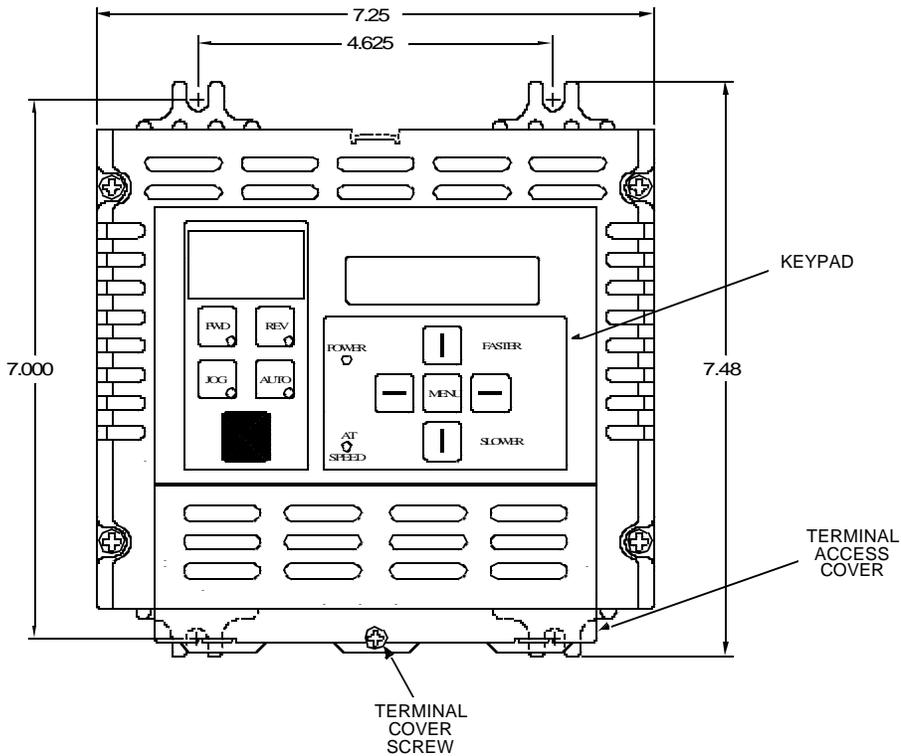
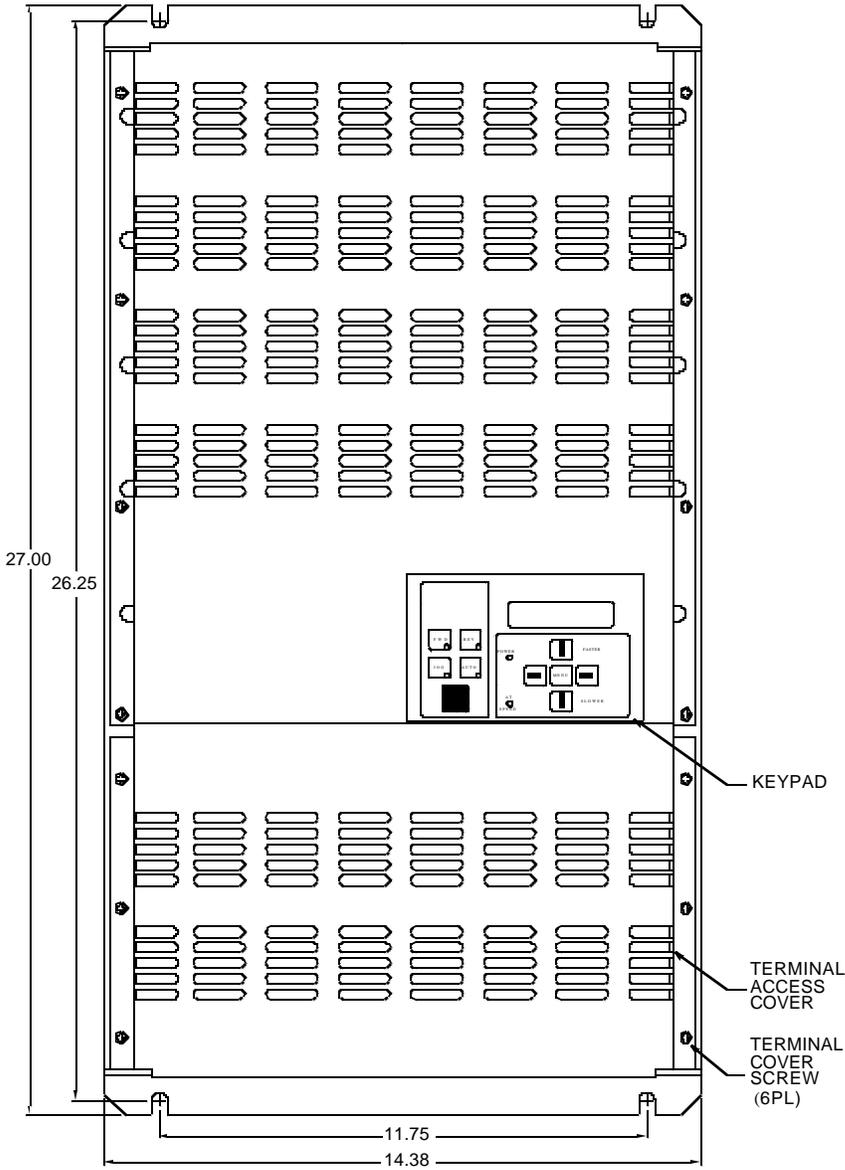

FIGURE 2-1. ADX CONTROLLER MOUNTING DIMENSIONS, 1 - 5HP, 230/460V
FIGURE 2-4. ADX CONTROLLER MOUNTING DIMENSIONS, 40 - 75HP, 460V
3. Select a vertical mounting surface that is vibration-free and allows air flow around the controller. Mounting dimensions are shown in Figure 2-1 (page 2-2) through Figure 2-4 (page 2-5). Also see Table 2-1, page 2-2.